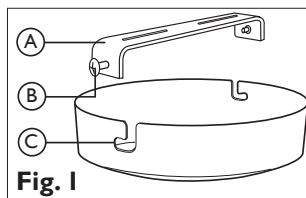

Fig. 1
Remove the fixing bracket (A) from the ceiling cover by removing the side screws (B). See Fig. 1.
This product has “L” shaped fixing slots to allow easy fixing to the ceiling strap. Refer back to Fig. 1. Locate the “L” slots (C) around the small screws (B) on the ceiling strap (A). Rotate the ceiling cover to attach the product to the strap. Tighten the screws to secure. Take care not to trap any wiring.